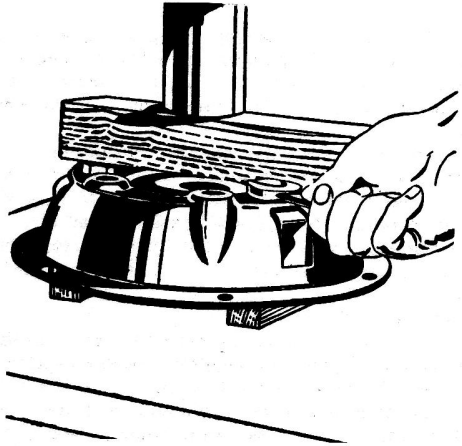

Fig.5.8. Compressing the thrust springs
- 3 It is now necessary to evenly compress the thrust springs and to take their weight whilst removing the adjusting nuts from the eyebolts. One way of doing this without the use of special equipment is to bolt the clutch to a flywheel in order to put pressure on the pressure plate but a press is really the answer. Place the clutch on the bed of the press with wood blocks under the pressure plate in such a manner that the cover can move downwards when pressure is applied, this set-up is shown in Fig.5.8.